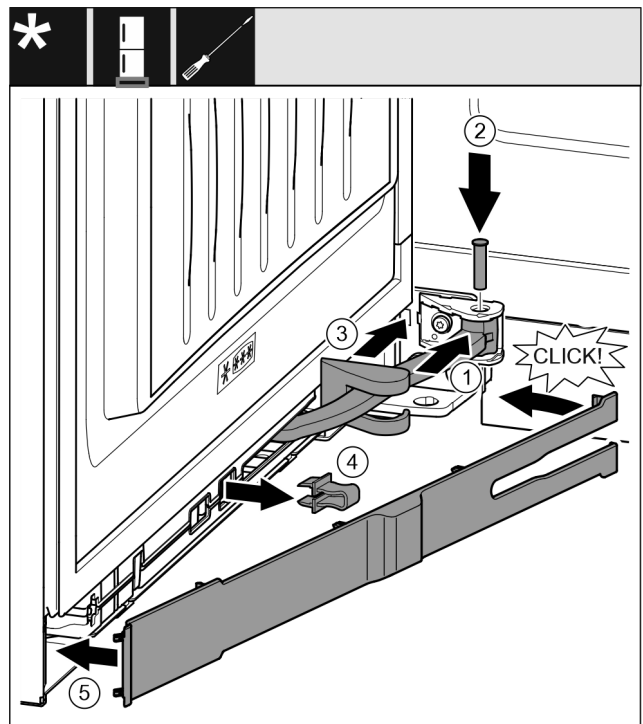

Fig. 49
- ▶ Turn the joint Fig. 49 (1) in the attachment.
- ▶ Use a screwdriver to insert the bolt Fig. 49 (2) into the attachment and the joint. Ensure that the latching cam is in the groove properly.
- ▶ Push the swap bearing block cover *Fig. 49 (3)* along the joint and use the attachment to fit it.
- ▶ Remove the safeguard *Fig. 49 (4)*.
- ▶ Place the trim *Fig. 49 (5)* on the handle side and swing in.